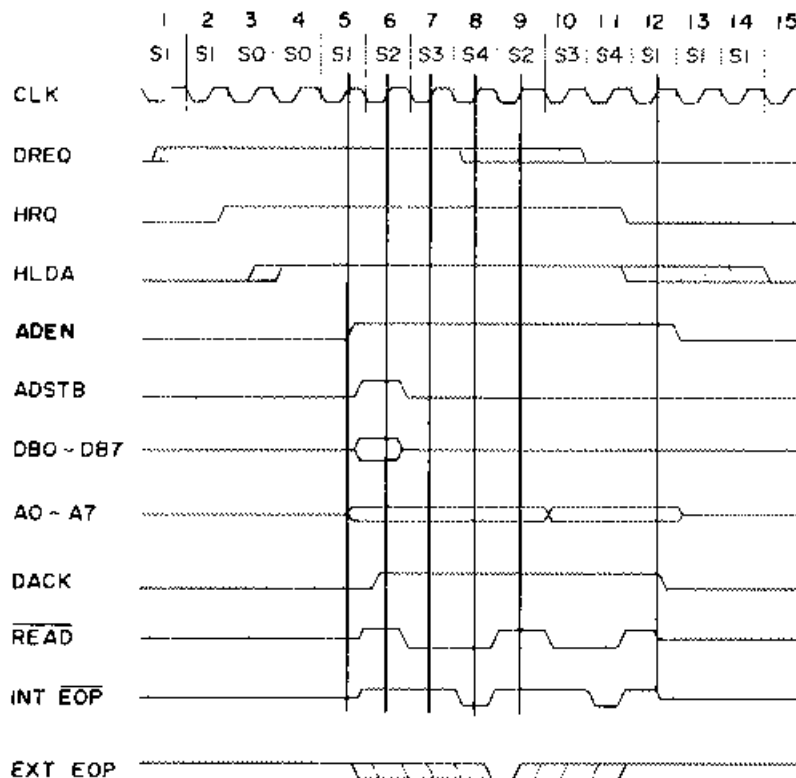

FIGURE 2-71. DMA TRANSFER SEQUENCE TIMING DIAGRAM
2. The 8237 determines the validity of the request and outputs an active high HRQ signal to the CPU control circuit, requesting control of the system bus from the active CPU. (Refer to Figure 2-71.)